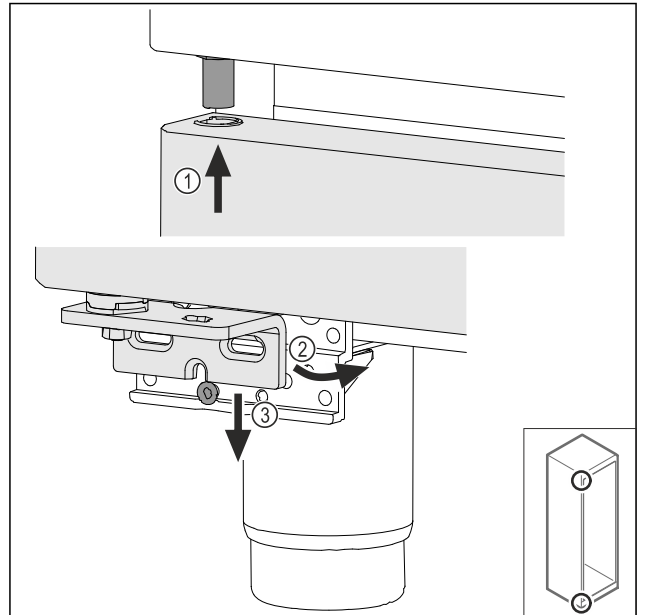

Fig. 39
- ▶ Insert the door slightly tilted at the top Fig. 39 (1), align the door straight Fig. 39 (2) and place it on the bottom of the swap bearing block screw Fig. 39 (3).